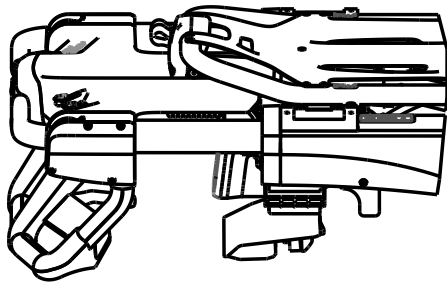
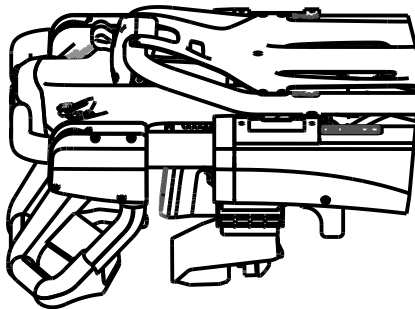
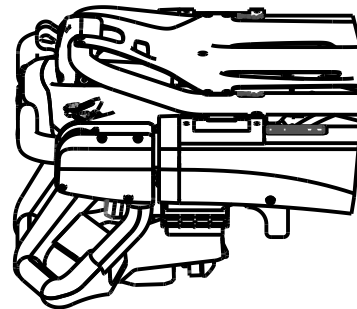

Figure 17 – Extended
Figure 18 – Mid
Figure 19 – Retracted
3. Release the foot section release lever to lock the foot section in either the extended (Figure 17), mid (Figure 18), or retracted position (Figure 19).